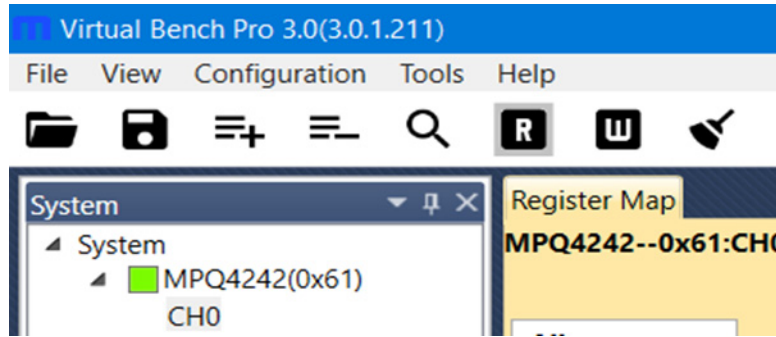

Figure 5: Read the MPQ4242’s Register Value
7. Click “R” on the toolbar to read the MPQ4242-0000’s register value (see Figure 5).